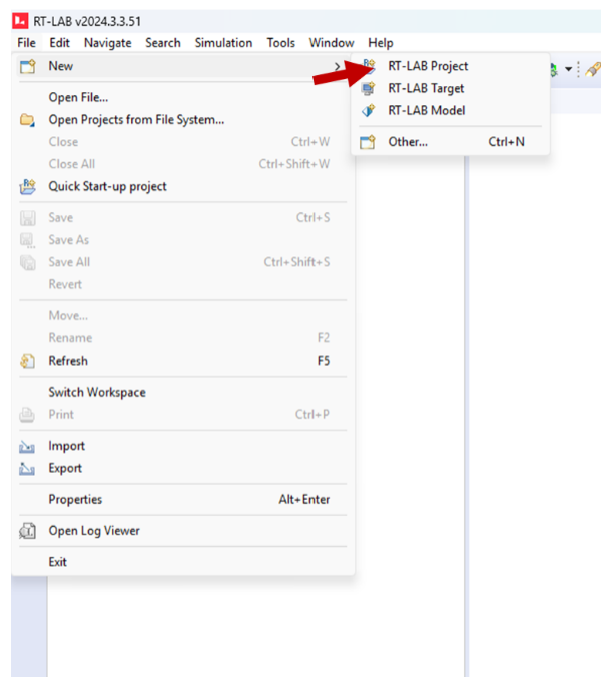

Figure 6: Create New Project
- In the “Project Explorer,” click on “Create a new project” (Figure 6).